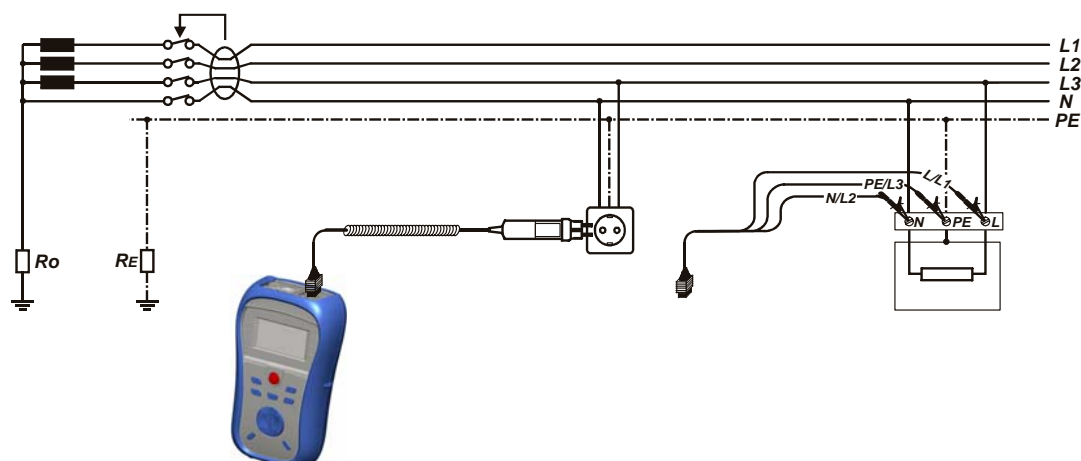

Figure 5.17: Connecting the plug commander and the 3-wire test lead
- Connect** test leads to the item to be tested (see *figure 5.17*).
- Connect** test leads to the item to be tested (see figure 5.17).
<ul style="list-style-type: none"> <input type="checkbox"/> Select the RCD function using the function selector switch. <input type="checkbox"/> Set sub-function AUTO. <input type="checkbox"/> Set test parameters (if necessary). <input type="checkbox"/> Connect test cable to the instrument. <input type="checkbox"/> Connect test leads to the to the item to be tested (see figure 5.17). <input type="checkbox"/> Press the TEST key to perform the test. 	Start of test